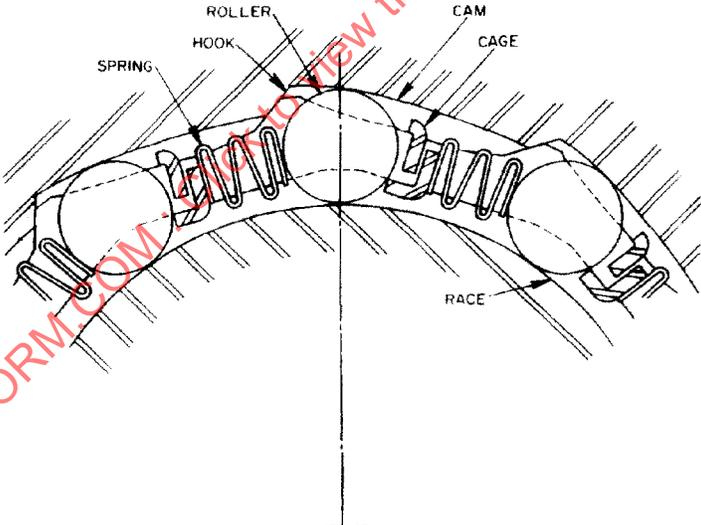

FIGURE 2—CAGED ROLLER OUTER CAM TYPE CLUTCH DIAGRAM (HOOK TYPE CAM)
4.2.3 CAGED ROLLER CLUTCH—A roller clutch which has the rollers and springs contained as a unit. (See Figure 2.)
- 4.3.5 CAGE—An element primarily used to contain the springs and rollers. (See Figure 2.)